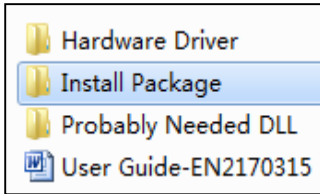
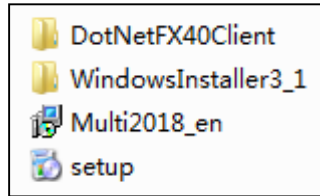
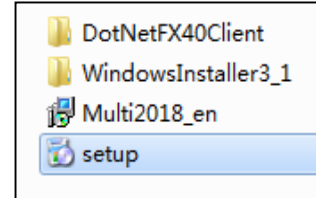

Figure 10
Figure 17
Figure 18
1) Return to the installation file interface (Figure 10), select and click "Install package" (Figure 17), click "setup" to install the program (Figure 18), enter the program installation interface, until the installation is complete (Figure 19). After successful installation, close the installation interface, the program icon will appear on the desktop (Figure 20), and the software installation is complete.